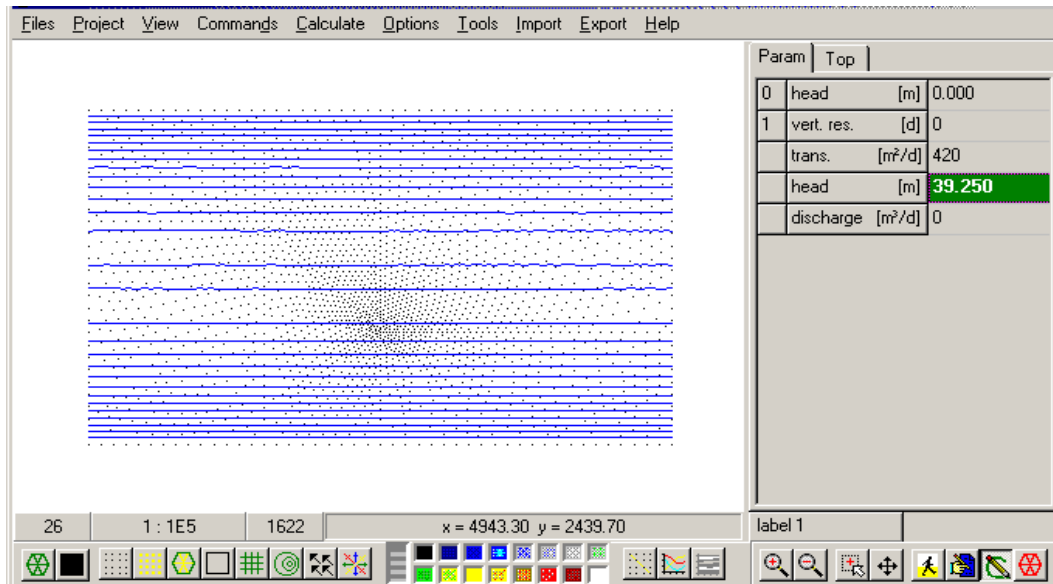

Figure 28: Contour map of h1, head in aquifer 1
5. OK, just leave the contour suggestions as they are and click on the OK-button. MicroFEM will then draw a contour map of h1 (Figure 28):